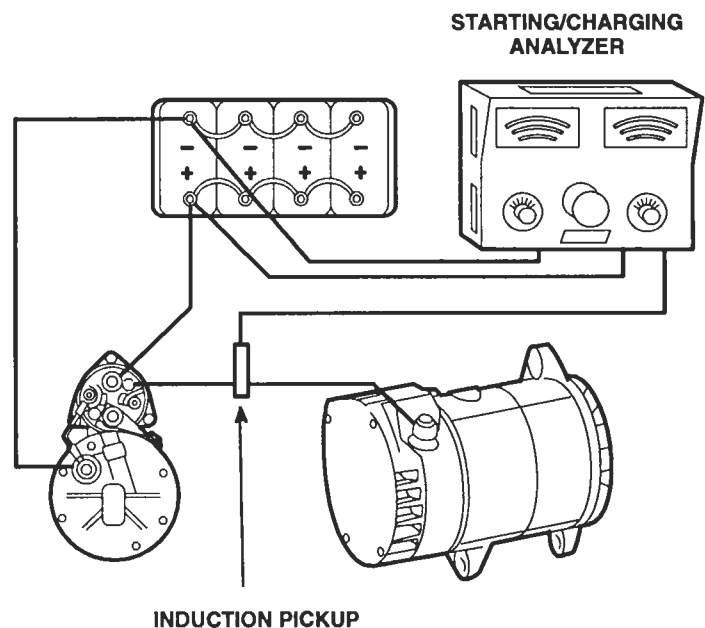

Figure 4. Alternator Output Test
1. The engine must be at shop temperature. Connect a charging–starting system analyzer, with a voltmeter, to the vehicle. Connect the voltmeter leads to one of the batteries, observing proper polarity. If the analyzer has an inductive pickup, place it around the alternator output wire (Figure 4.)